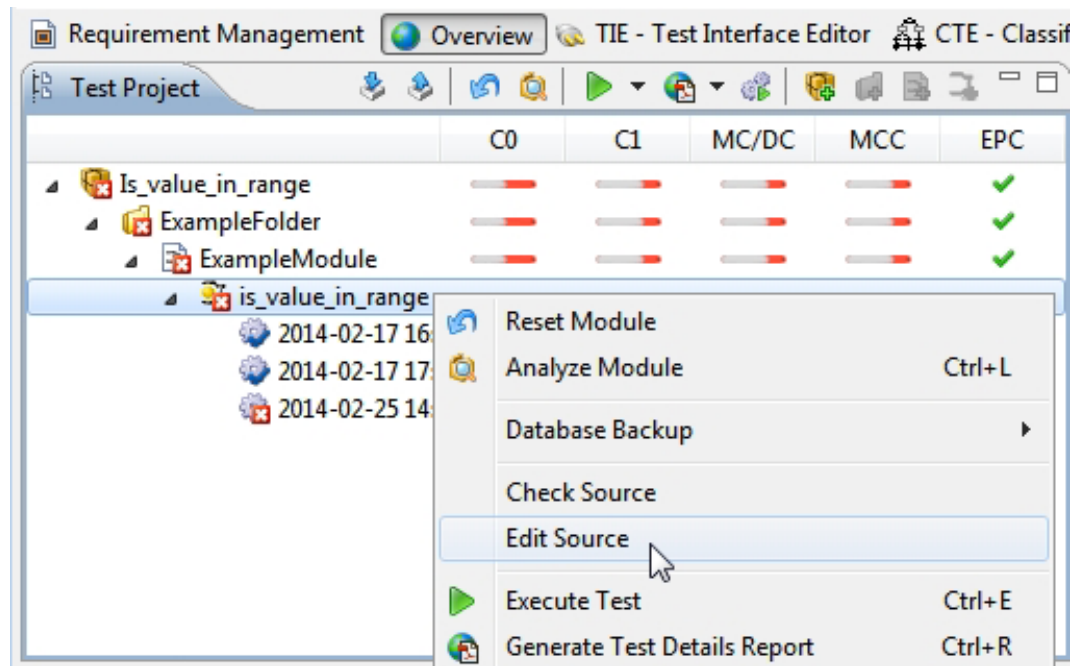

Figure 6.88: Opening the C/C++ perspective
- Select “Edit Source” (see figure 6.88).